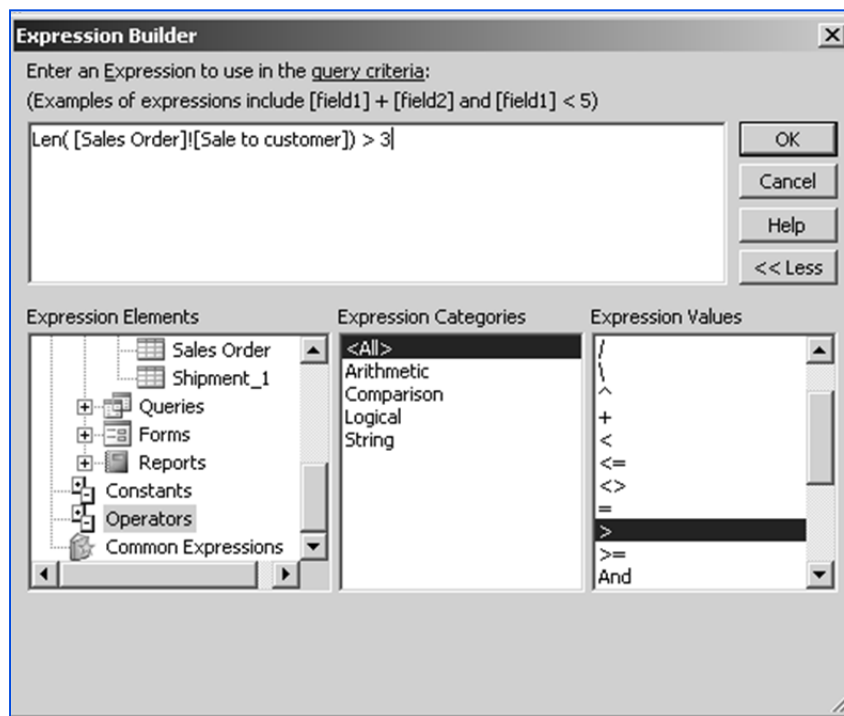

Fig. 3.5.8. The Complete expression
10. Now click on > (Greater Than sign) from the *Operators* tab so that it gets pasted on *Expression Box* and write 3 after that so the *Expression Builder* window looks like as in Fig. 3.5.8.